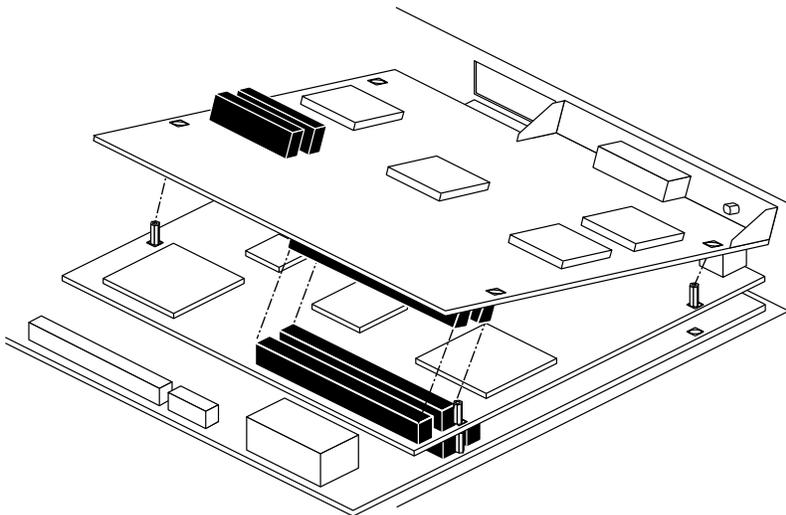

Figure 2-8 Positioning the X Board Over the Z Board
- Grasp the X board by the sides, with the two 96-pin male connectors on the underside, as shown in Figure 2-8.
- Loosely place the X board on top of the Z board so that the two male connectors on the underside of the X board align with the two female connectors on the Z board, as shown in Figure 2-8.